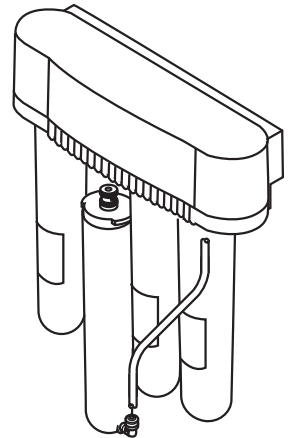

Fig. 7
- 1) Lift up on the faucet handle and close the cold water feed valve. Wait five (5) minutes for the filtration assembly to completely depressurize.
- 7) Line up the filter ears, insert the filter and push it into the head until it is fully seated. Twist the filter 1/4 turn to the right to lock it into place. (See Fig 7)
- 3) Make sure that there is some slack in the red SFC tubing connected to the fitting at the bottom of the RO membrane module. Twist the module 1/4 turn to the left (counterclockwise) so that the tubing connection is accessible. (See Fig 7)